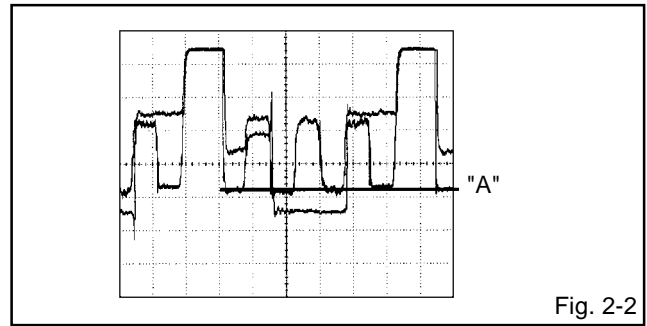

Fig. 2-2
5. Press the VOL. UP/DOWN button on the remote control until the section "A" becomes a straight line. (**Refer to Fig. 2-2**)